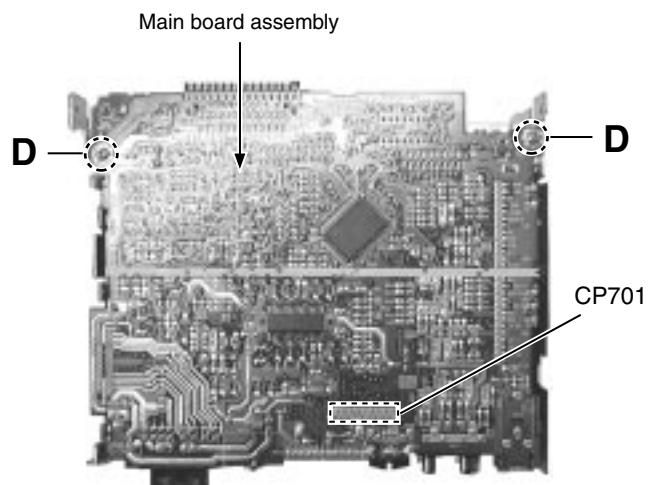

Fig. 6
■ **Removing the main amplifier board assembly (See Fig.6)**